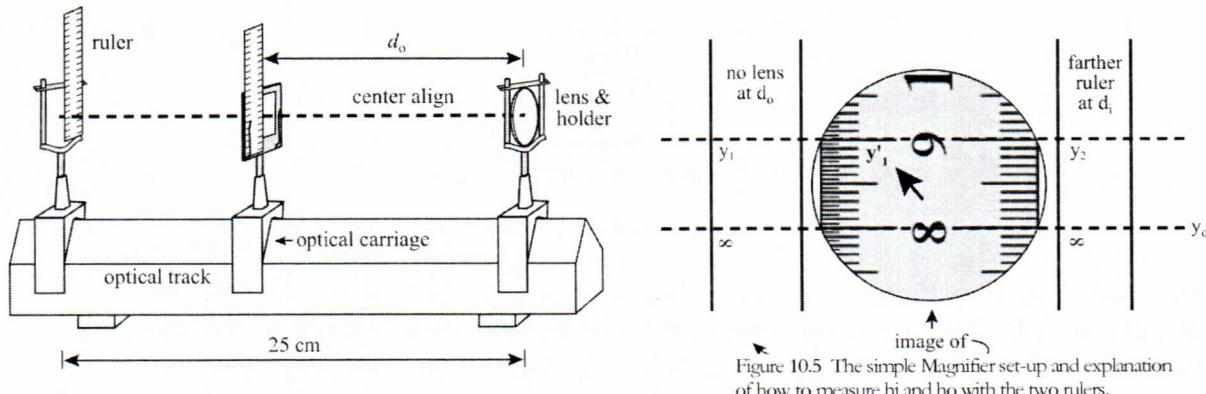

Figure 10.5 The simple Magnifier set-up and explanation of how to measure h_i and h_o with the two rulers.
2. When looking at the ruler at d_o through the lens, you are seeing the larger virtual image. See Figure 10.5. Move your head slightly left or right to view the ruler at d_o without the lens. This is your object, unaided. Move your head slightly left or right to view the ruler at d_i without the lens. This is to measure the image at the image location.